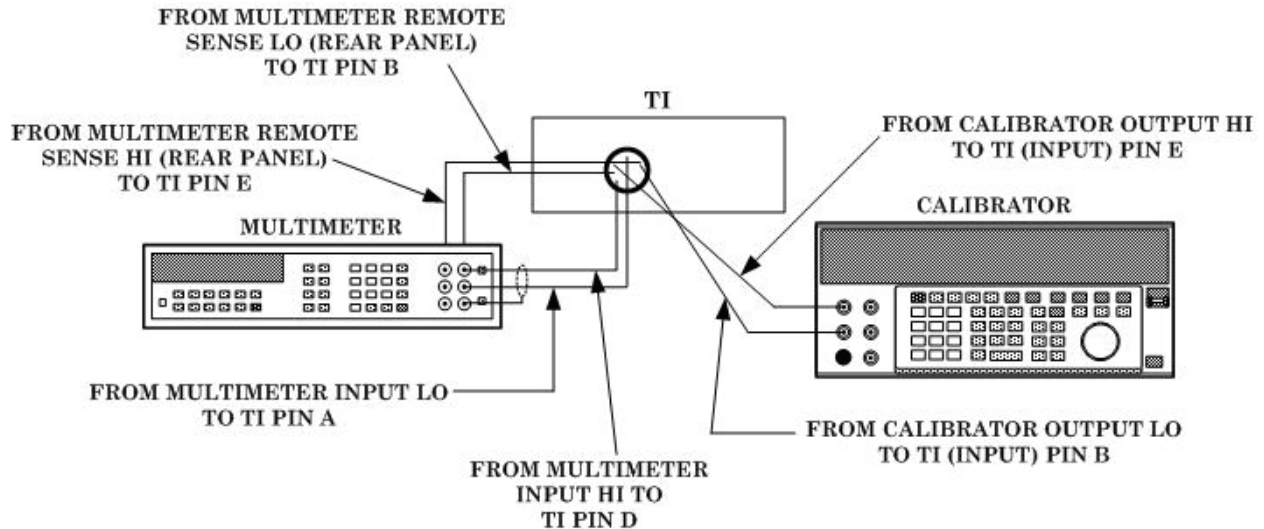

Figure 2. Equipment connections.
(1) Connect equipment as shown in figure 2 below, except do not connect TI input leads to calibrator OUTPUT.
(2) Set TI **POLARITY** switch to + and **OUTPUT SIGNAL** dial to 100 then short input leads together (using alligator clip). Allow 1 to 3 minutes for thermal stabilization, then execute multimeter **MATH NULL** and **TRIG** functions, to store multimeter indication in the offset register.
(3) Connect TI input leads to calibrator **OUTPUT** as shown in figure 2.
(4) Set calibrator for an initial 15 V dc output then adjust calibrator for a 0.04500000 V (± 10 digits) indication on multimeter for the front panel terminals. Allow approximately 30 minutes for stabilization. (Multimeter may be set to **TRIG AUTO** and **NPLC 20** for this step).